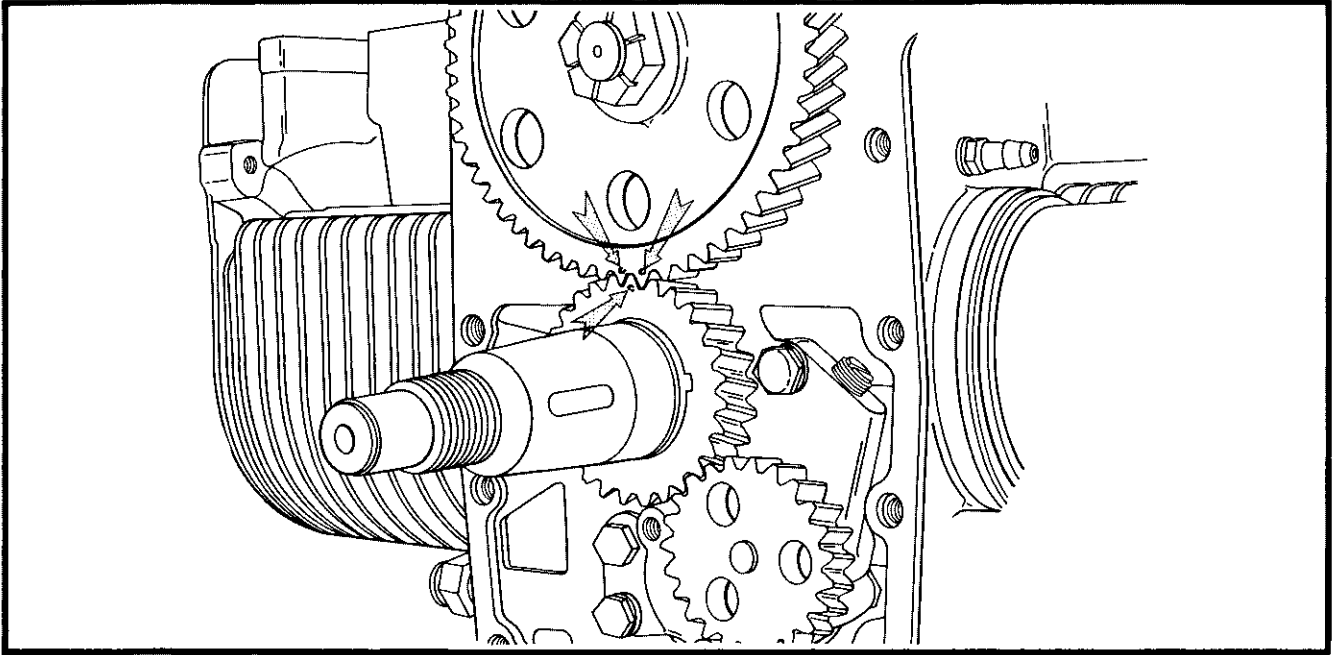

FIGURE 11-3 -- TIMING MARKS ON CRANK AND CAM GEARS (K482, K532)
- C. Cam Gear: Turn crank gear until tooth with punch mark is in 12 o'clock position as shown in Figure 11-3. Install woodruff key on camshaft, rotate camshaft so that the two timing marks punched on adjacent teeth of cam gear will straddle single mark on crank gear. After marks are aligned, install cam gear and secure with retaining nut--tighten nut to 480 in. lbs. torque value. When tightening nut, insert screw driver blade thru holes in cam gear and wedge against one of the capscrews to prevent gear from turning.